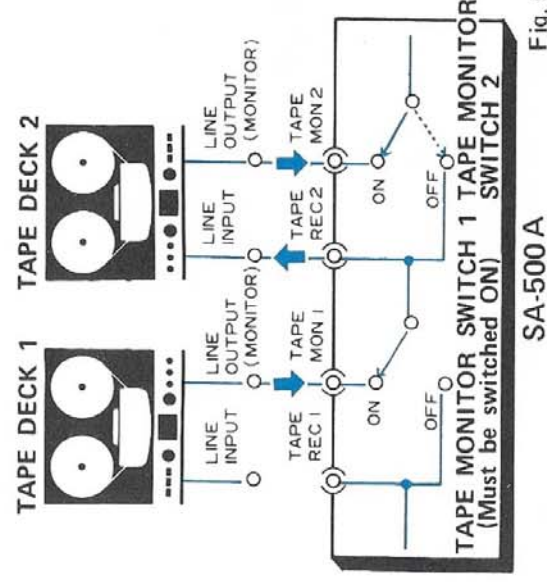

Fig. 5
As shown in Fig. 5, setting the TAPE MONITOR switch 1 to ON permits playback of the tape on tape deck 1, and setting TAPE MONITOR switch 2 to ON permits playback of the tape on tape deck 2. During playback, volume and tone can be adjusted by the VOLUME, BASS and TREBLE controls on the SA-500A. Playback is possible regardless of the position of the SELECTOR switch.
1. Connect two tape decks as shown in Fig. 5.